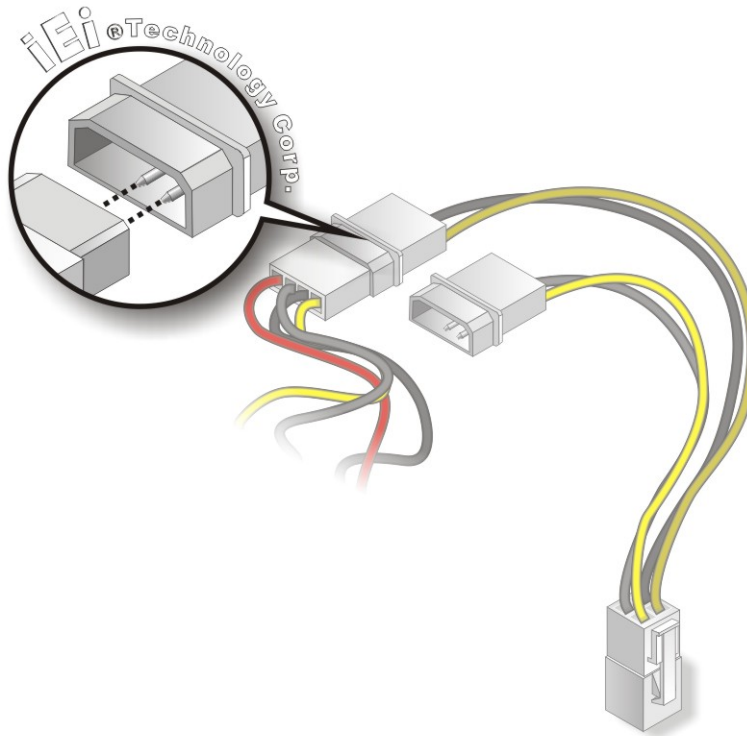

Figure 4-8: Connect Power Cable to Power Supply
Step 3: Connect Power Cable to Power Supply. Connect one of the 4-pin (1x4) Molex type power cable connectors to an AT power supply. See Figure 4-8.